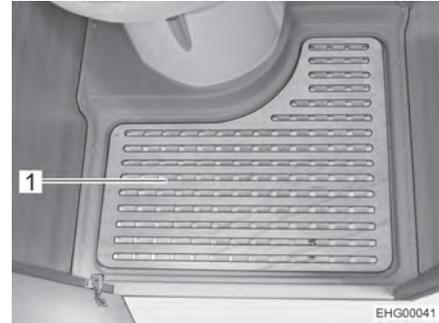

Fig. 114 Removable floor plate
- Take out the removable floor plate (Fig. 114,1) for showering.